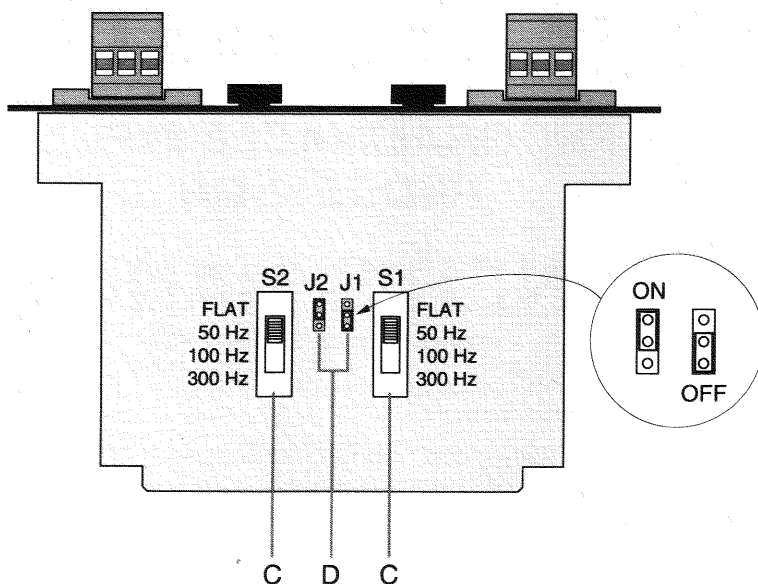

Fig. 1.2 Bottom View
A 4-position sliding switch for each channel (Figure 1.2) controls the subsonic/bass filter. This filter is an 18 dB/octave (3rd order) Butterworth high-pass filter which can be selected to attenuate low frequencies below 50 Hz, 100 Hz or 300 Hz. It can also be switched off (Flat). A label on the side of each switch identifies the switch settings.
A jumper is provided for each channel (Figure 1.2) to enable/disable the constant-directivity horn equalization. The jumper for channel 1 (J1) is shown in the "OFF" position while the jumper for channel 2 (J2) is shown in the "ON" position. The constant directivity horn equalization is a 6 dB/octave shelving network with a 3 dB rise at 3.2 kHz and a peak boost of 12.5 dB at 24 kHz.
1. Adjust the constant-directivity equalization jumper of each channel to be either "on" or "off" (see Figure 1.2). Figure 2.1 shows the frequency response through the *P.I.P.-ATN* when this filter is on.
2. Select the desired position for the Subsonic/Bass filter switch for each channel. Pushing the switch all the way forward toward the front of the module switches the filter off ("Flat"). A label is affixed to the inside of the switch to show what the positions do (see also Figure 1.2). Figure 2.2 shows the frequency response through the *P.I.P.-ATN* when this filter is set in each of its four modes (Flat, 50 Hz, 100 Hz, 300 Hz).